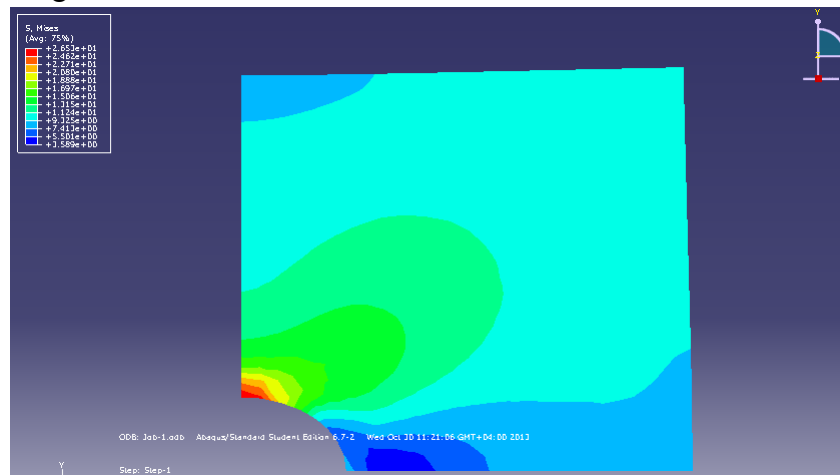

Figure 1
10. Prove that distribution of Mises stress for a rectangular plate with a central hole will be as shown in the Figure 1.